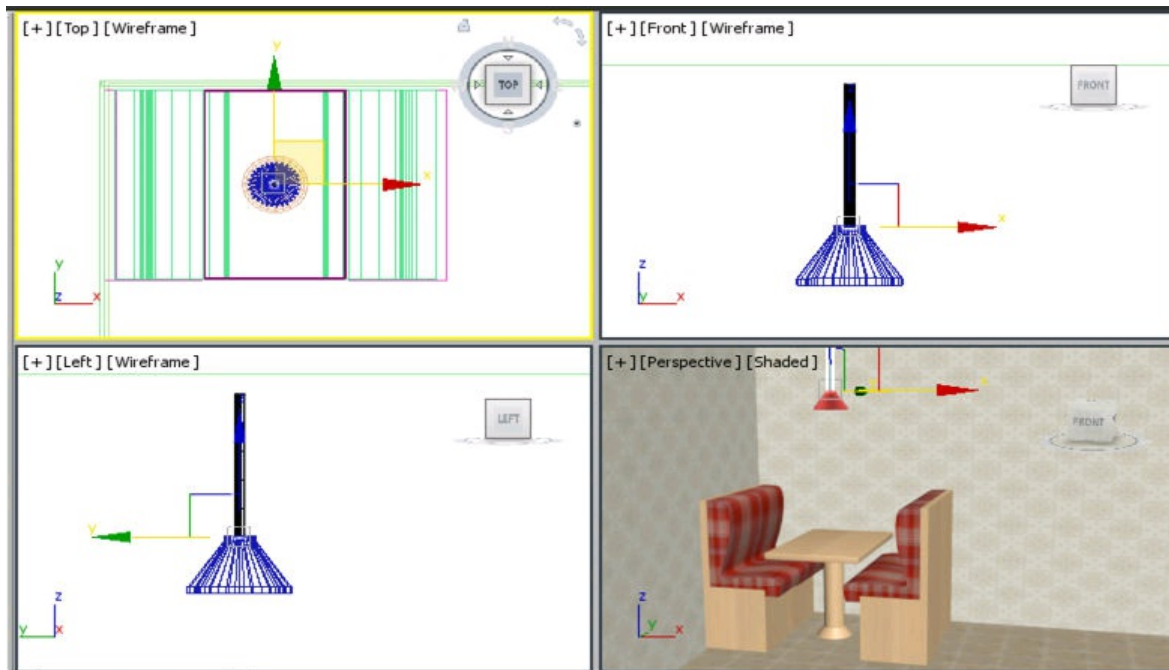

Figure P1-14 A suspension cylinder created
26. In the Front viewport, move the cylinder so that its lower edge is aligned with the upper edge of *Shade*. In the Top viewport, place the cylinder at the center of *Shade*, as shown in Figure P1-14.